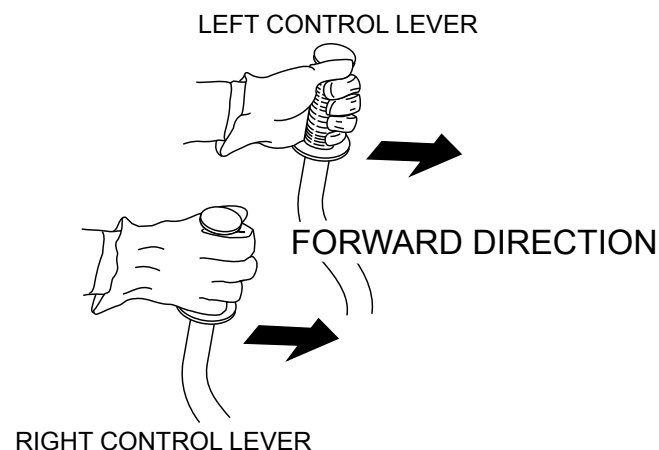

Figure 13. Left and Right Control Levers
1. Push both the left and right control levers forward. See Figure 13.